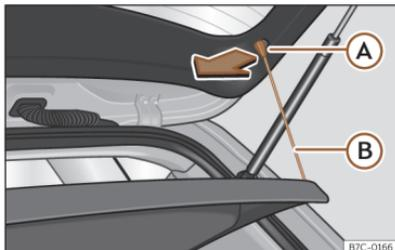

Fig. 168 In the boot: removing and installing the shelf.
- Detach the cord loops >>> **Fig. 168** **(A)** from their hooks **(A)**.
- Attach the securing straps >>> **Fig. 168** **(B)** onto the rear lid.